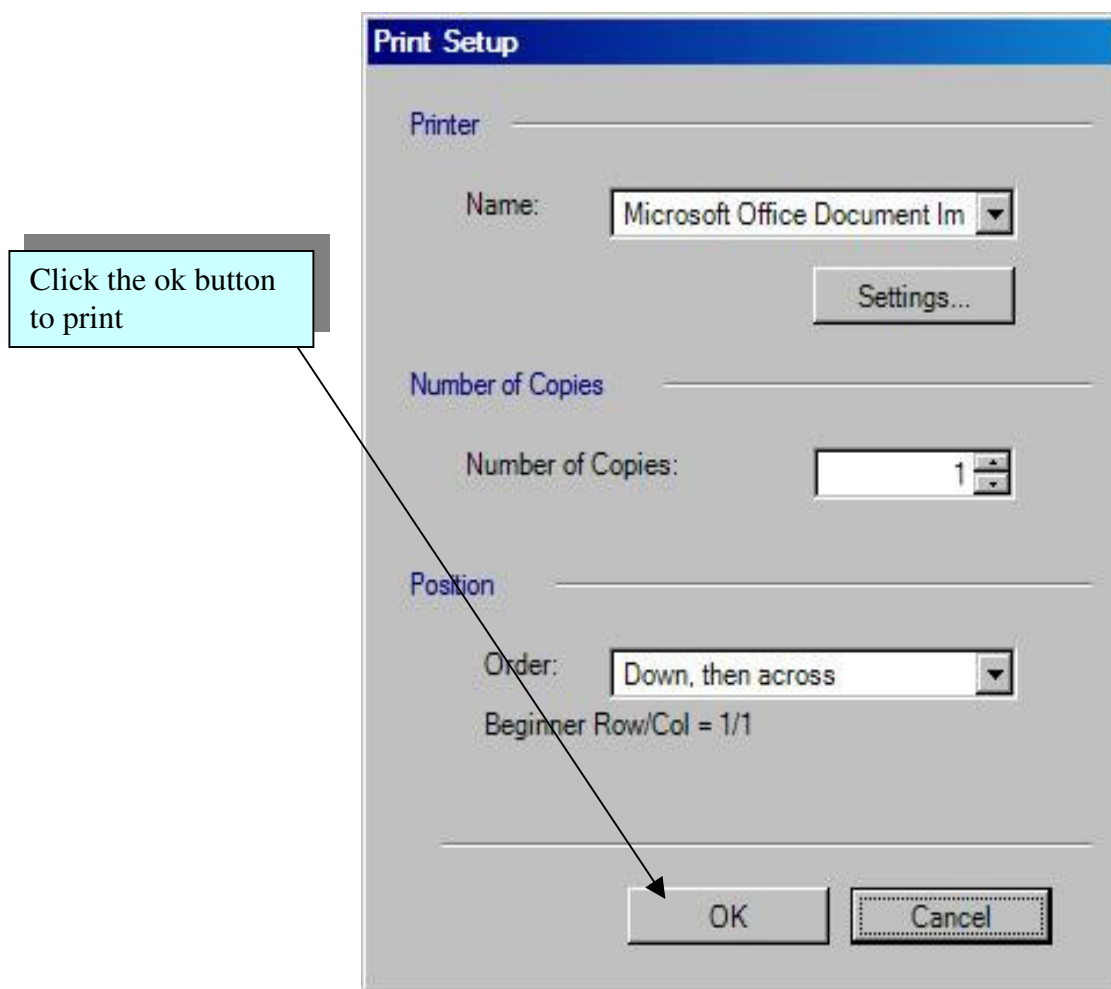

Figure 5.4.8: Print
5. Click Ok to print the label (see Figure 5.4.8)